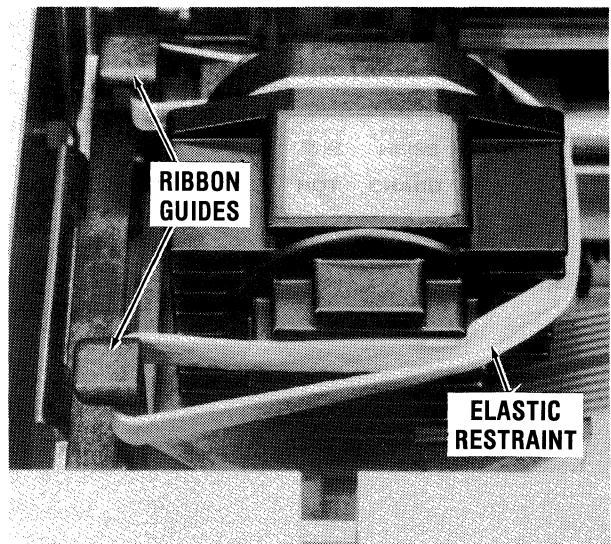

Figure 1-2 Remove Head Restraint
6. Refer to Figure 1-2. Remove the elastic band restraining the print head.